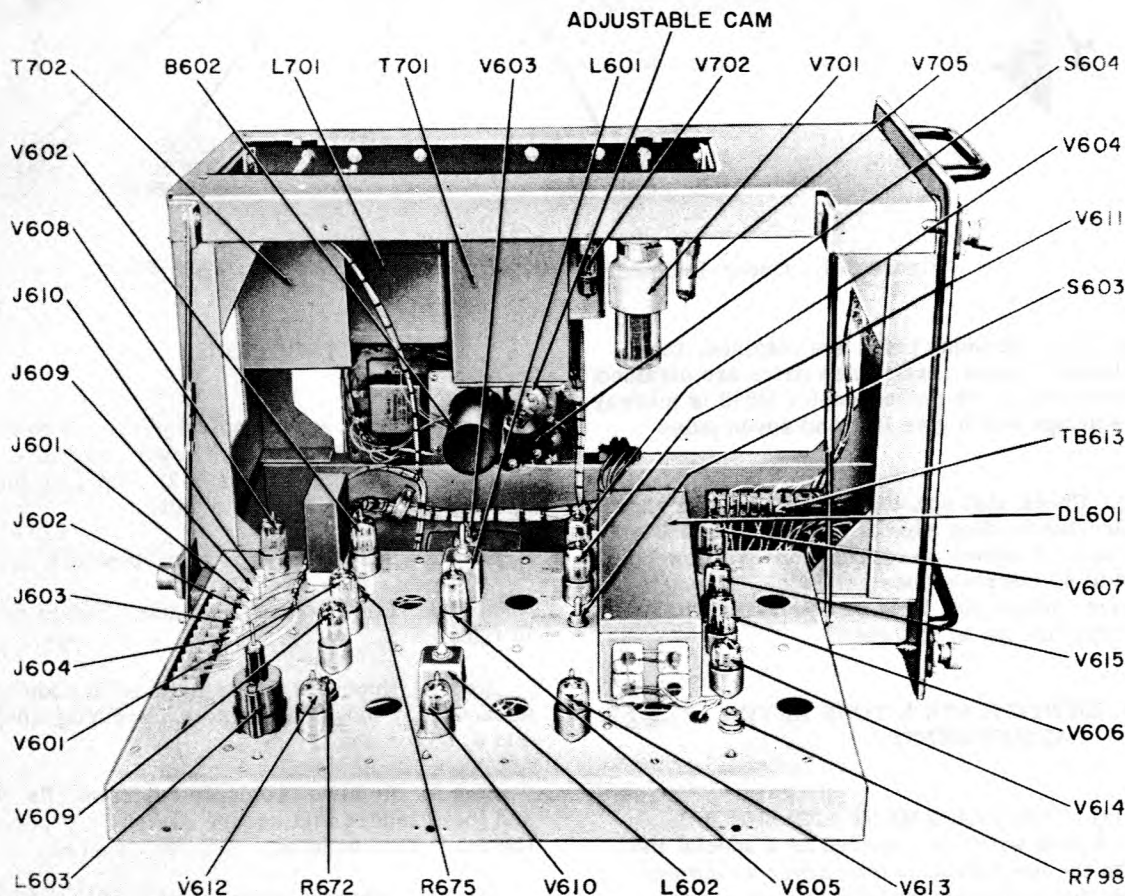

Figure 6-6. Coder-Indicator KY382/GRN-9D, Left Side View with Video Chassis Lowered
Step 3. Lower video chassis as shown in figure 6-6.
Step 6. Set switch S603 (figure 6-6) to CONTINUOUS TONE.
Step 9. If necessary, adjust coil L603 (figure 6-6) until nine tone pulse groups appear between auxiliary reference bursts.
(2) NORTH AND AUXILIARY REFERENCE BURSTS ADJUSTMENT.
Step 2. Remove plug P906 from jack J603 (figure 6-6).
Step 3. Lower coder-indicator chassis as shown in figure 6-6.
Step 7. Loosen screws located in slots of adjustable cam (figure 6-6) and position adjustable cam so that switch S604 is not actuated. Tighten screws.
Step 11. Set keyer switch S603 (coder-indicator video chassis figure 6-6) to NORMAL KEYING.
video chassis of coder-indicator unit (figure 6-6). The procedure outlined below is based on checking the overall radio beacon delay of 50 microseconds and adjusting delay line DL601 as necessary to obtain that delay. The built-in test equipment is employed for this procedure.